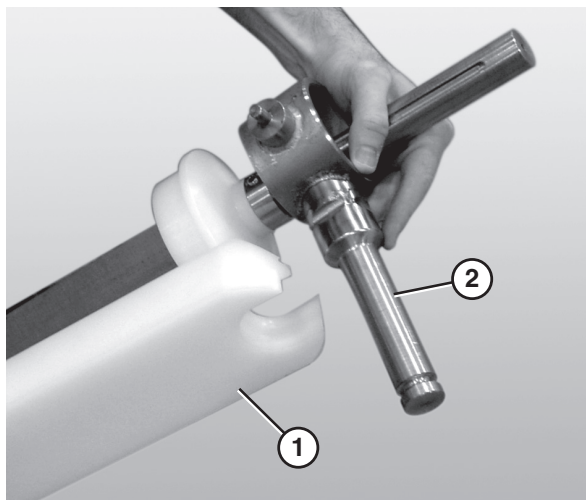

Figure 78
8. Attach the guard bar (**Figure 78, item 1**) to the bearing / motor mount bracket shafts (**Figure 78, item 2**).